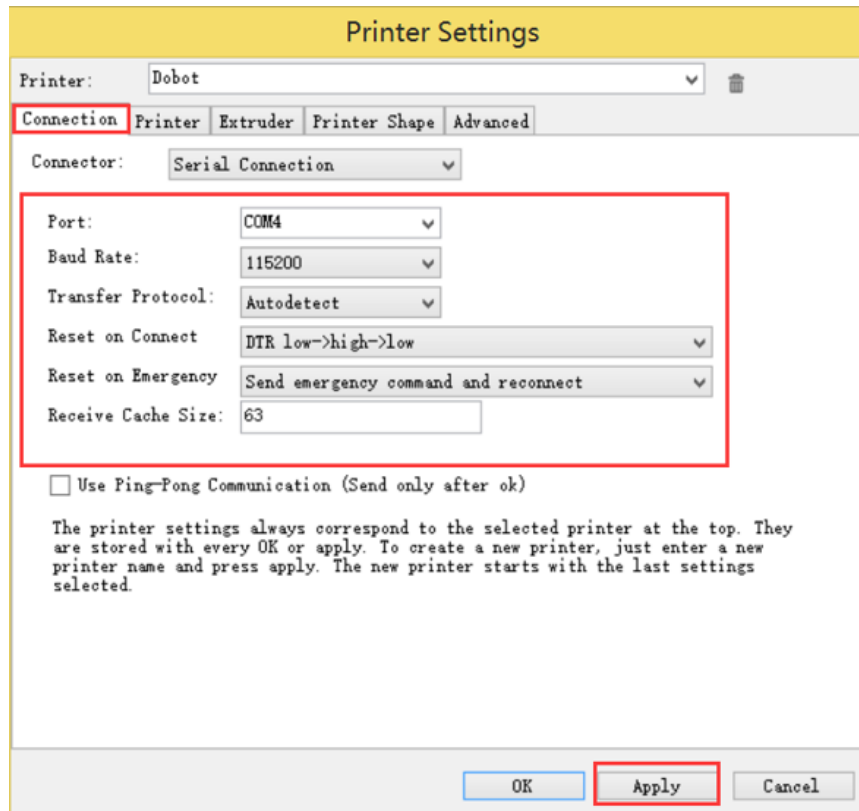

Figure 5.127 Connection setting
2. Set the corresponding parameters on the **Connection** tab as shown in the red box of Figure 5.127. The other parameters are set by default.